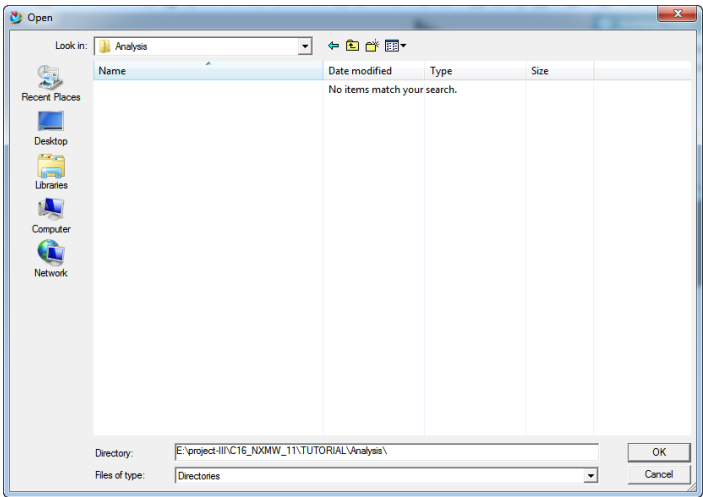

Figure 16-69 The Open dialog box
- 2. Choose the **Browse** button; the **Open** dialog box is displayed where you can set the working folder, refer to Figure 16-69.